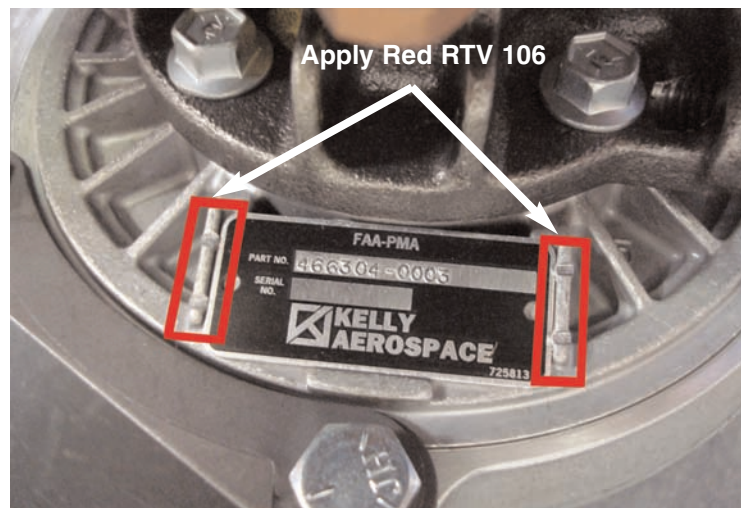

Fig. 1
3. Clean the data tag and recessed area using liberal amounts of isopropyl alcohol or other non oil based solvent (spray method is best). Thoroughly blow dry area with oil free compressed air. When completely dry, apply a 3/8 inch bead of Red RTV 106 adhesive sealant along each side of the tag extending onto the perimeter of the turbocharger tag recess area (see Fig 1). Take care not to cover data tag information. Let air cure at shop temperatures above 60°F for 25 minutes (tack free time) before continuing with this instruction. Allow full cure before operating the engine. For full cure time and detailed usage, follow manufactures instructions. Observe all manufacturers precautions when using this product. **NOTE: The application of sealant adhesive will be ineffective if the surface area is not clean.**
*For questions concerning this instruction please contact KAPS, Service Dept. at (888) 461-6077. Contact your local KAPS distributor to purchase available service parts.*